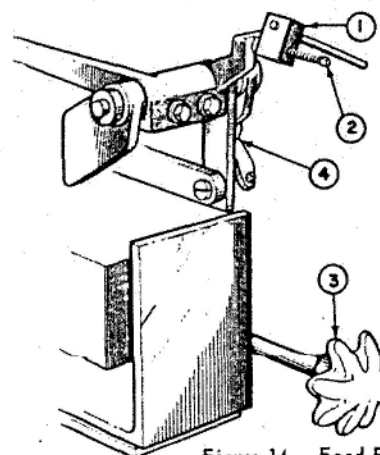

Figure 14 - Feed Roller Adjustment
- a. Loosen locknut (1) Figure 14 and back out screw (2) 1/4" to 3/8".